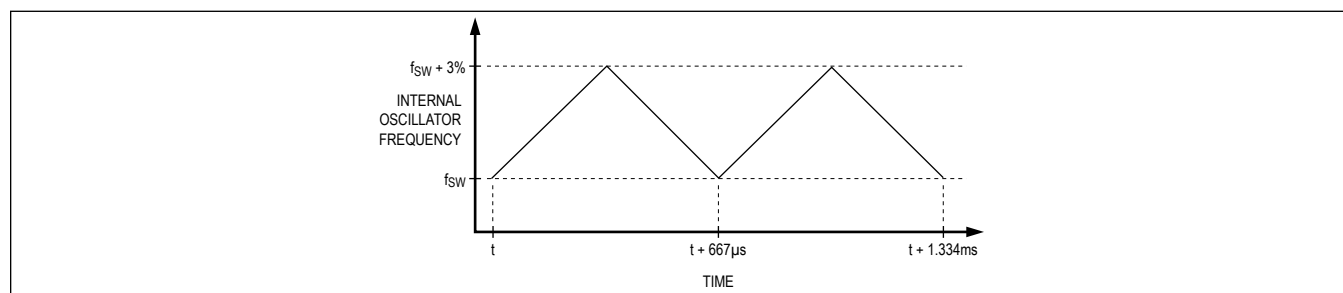

Figure 2. Effect of Spread Spectrum on Internal Oscillator
The PMICs feature a linear spread-spectrum (SS) operation, which varies the internal operating frequency between f_{SW} and $(f_{SW} + 3\%)$. The internal oscillator is frequency modulated at a rate of 1.5kHz with a frequency deviation of 3% (see Figure 2). This function does not apply to an oscillation frequency applied externally through the SYNC pin. Spread spectrum is a factory-selectable option. See the Selector Guide for available options.